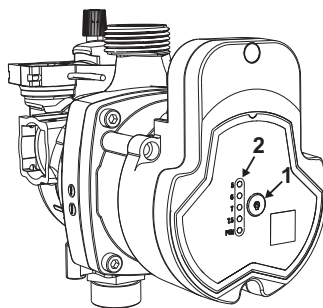

fig. 17
the circulating pump has a **central button** (ref. 1 - fig. 17) for selecting the operating head. If the circulating pump is controlled by a modulating signal (as in this ALHENA C model), the button is disabled and head adjustment is automatically controlled by the PCB.
There are some **LEDs** (ref. 2 - fig. 17) which indicate the circulating pump operating mode. Otherwise, in case of a fault, these **LEDs** provide diagnostics of the possible cause, based on the number of flashes.